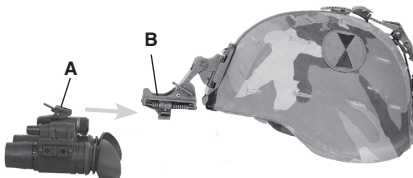

FIGURE 3-9. ATTACHING ATN PS15 TO HELMET MOUNT
1. Loosen the screw (A) of adapter. Push the button (B) and slide the rail (C) of the PS15 into the socket of the adapter. Push the button until the adapter will lock the alignment groove in the rail. Tighten the screw (A).
2. Align the adapter and the helmet mount. Slide the device rearwards until the alignment boss (Figure 3-9, (A)) aligns with the alignment groove (B) on the helmet mount. Push until the adapter locks into the helmet mount.